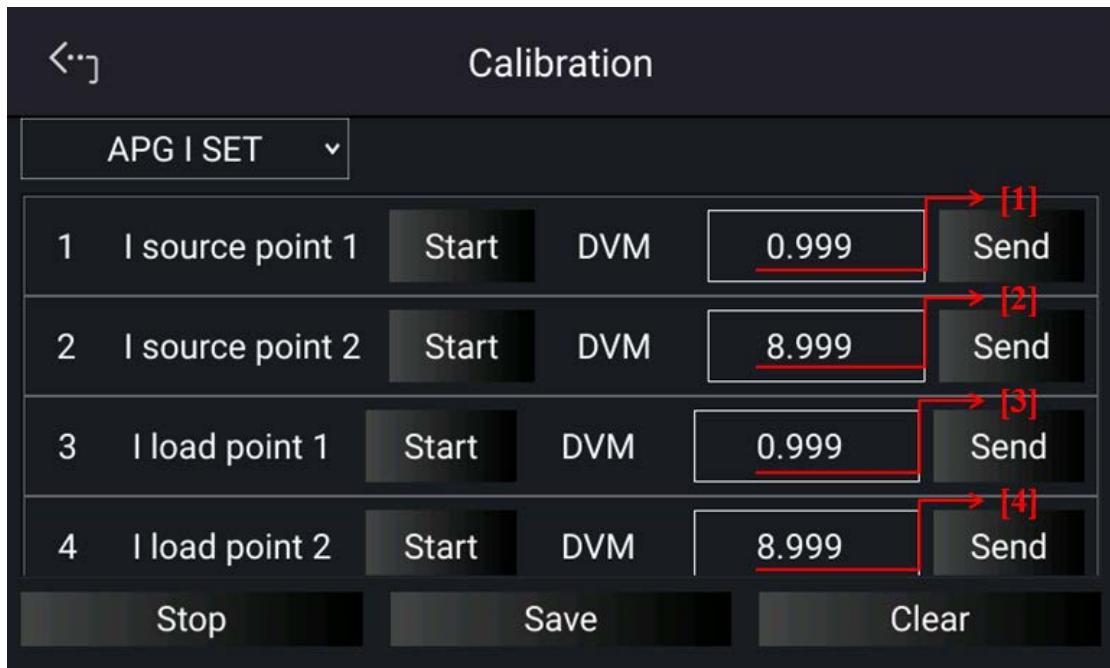

Figure 3-78
4. It will request you to input about 1V voltage signal (TP108). Adjust the Power Supply to $1V \pm 0.1V$ and use DVM1 to measure the Power Supply. Enter the measured voltage to position [1] and tap “SEND” to confirm as Figure 3-78 shows.
5. Next, tap “START” next to I source point 2 to calibrate the second point current. Adjust the Power Supply to $9V \pm 0.1V$ and use DVM1 to measure the Power Supply. Enter the measured voltage to position [2] and tap “SEND” to confirm as Figure 3-78 shows.
6. Tap “START” next to I load point 1 to calibrate the first point positive current. It will request you to input about 1V voltage signal (TP109). Adjust the Power Supply to $1V \pm 0.1V$ and use DVM2 to measure the Power Supply. Enter the measured voltage to position [3] and tap “SEND” to confirm as Figure 3-78 shows.
7. Next, tap “START” next to I load point 2 to calibrate the second point negative current. Adjust the Power Supply to $9V \pm 0.1V$ and use DVM2 to measure the Power Supply. Enter the measured voltage to position [4] and tap “SEND” to confirm as Figure 3-78 shows.
8. When the APG current calibrations are done, tap “STOP” to exit the calibration procedure. To save the calibration data, tap “SAVE”, and tap “CLEAR” to delete the calibration parameters if there is no need to save them as Figure 3-78 shows.